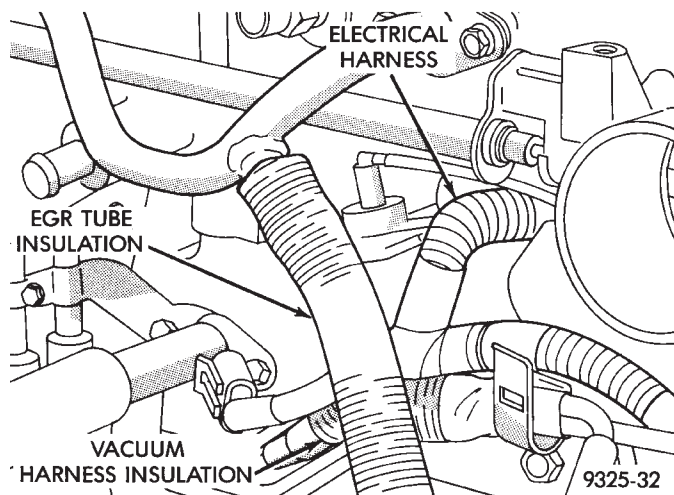

Fig. 19 Insulation on EGR Tube and Vacuum Harness
(1) Loosely install EGR tube with new gaskets. Finger tighten EGR tube mounting screws.
(2) Tighten EGR tube to EGR valve screws to 11 N•m (95 in. lbs.) torque.
(3) Tighten EGR tube to intake manifold plenum screws to 22 N•m (200 in. lbs.) torque.
(4) Ensure the insulation on the EGR tube aligns with and contacts the insulation on the vacuum harness at the rear of the engine (Fig. 19).